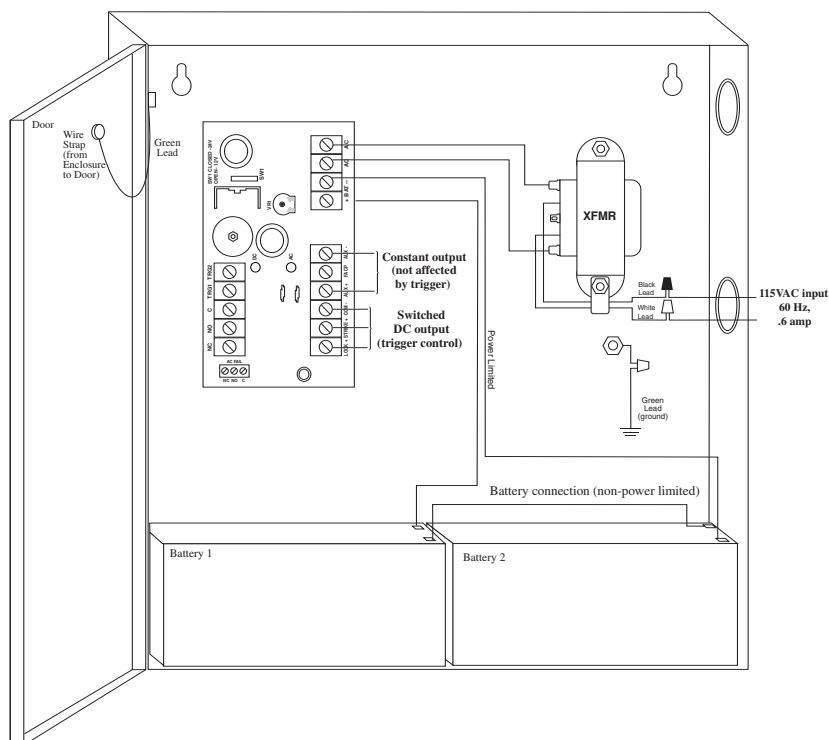

Fig. 1
5. Connect one (1) 12VDC battery to terminals marked [+ BAT -] (Fig. 1, pg. 2) for 12VDC operation. Use two (2) 12VDC batteries connected in series for 24VDC operation, (Battery leads included).
When the use of batteries is desired they must be lead acid or gel type. Connect battery to the terminals marked [+ BAT -] (Fig. 1) (battery leads included). Use two (2) 12VDC batteries connected in series for 24VDC operation.